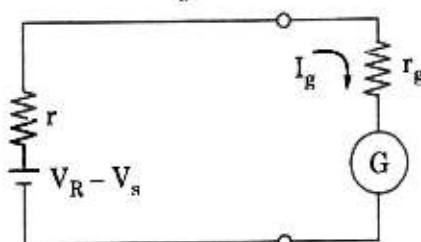

Fig. 3.6.3. Thevenin equivalent circuit.
7. The complete equivalent circuit of the bridge and galvanometer is shown in Fig. 3.6.3. The galvanometer current is now